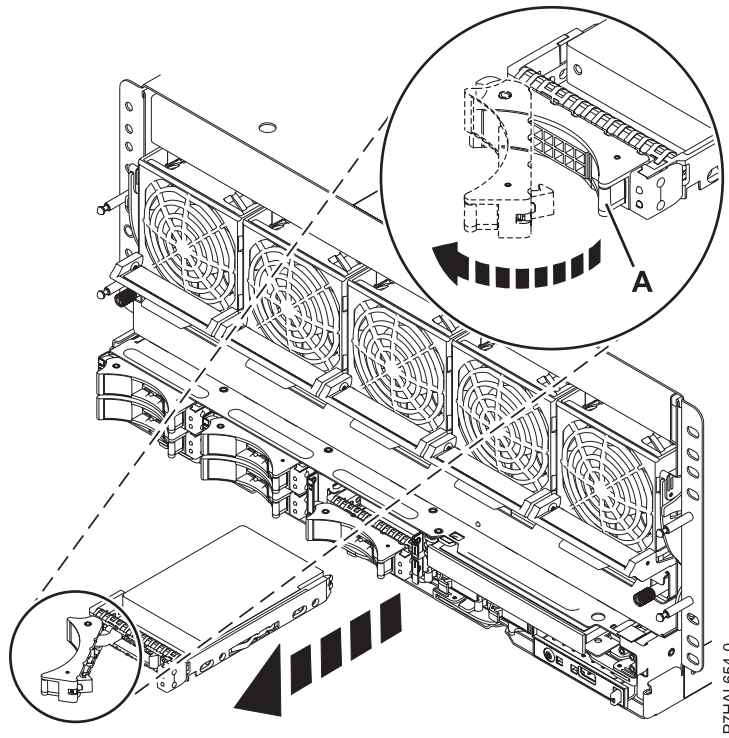

Figure 24. Removing a disk drive from the system
1. Unlock the drive handle by squeezing it and pulling it out toward you, as shown in Figure 24 on page 39.